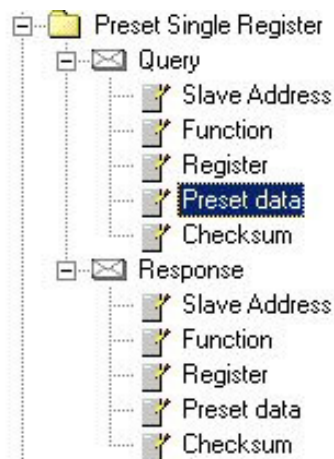

Figure 5
16. Next step is to set up the Communicator to write the speed reference to the drive. Right-click on the node and select Add Command then select 0x06 for Preset Single Register. Once again, two fields will appear labeled Query and Response though the subfields will be different as shown in Figure 5.